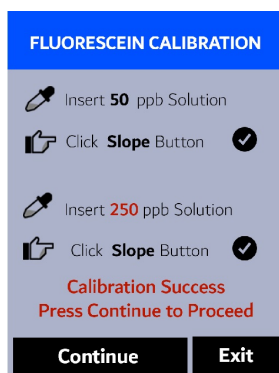

Figure 24.
13. If the calibration succeeds, a second checkmark () "Calibration Success" message will appear (Figure 24). Otherwise, a warning message is displayed.